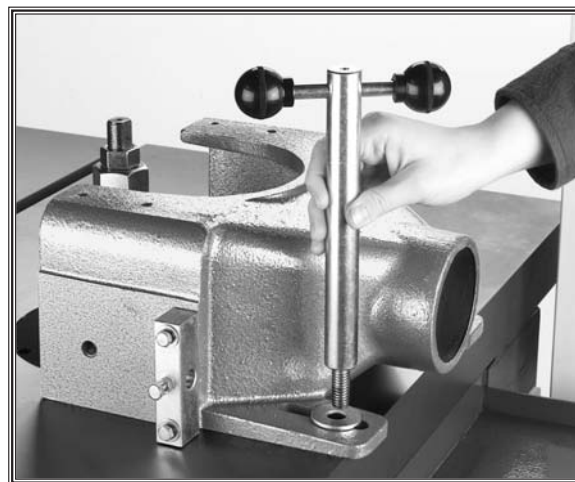

Figure 8. Securing the guard to the table.
5. Insert the tie-down assemblies with $\frac{1}{2}$ " flat washers through the slots in the guard, and thread them into the table to secure the guard in place, as shown in **Figure 8**.